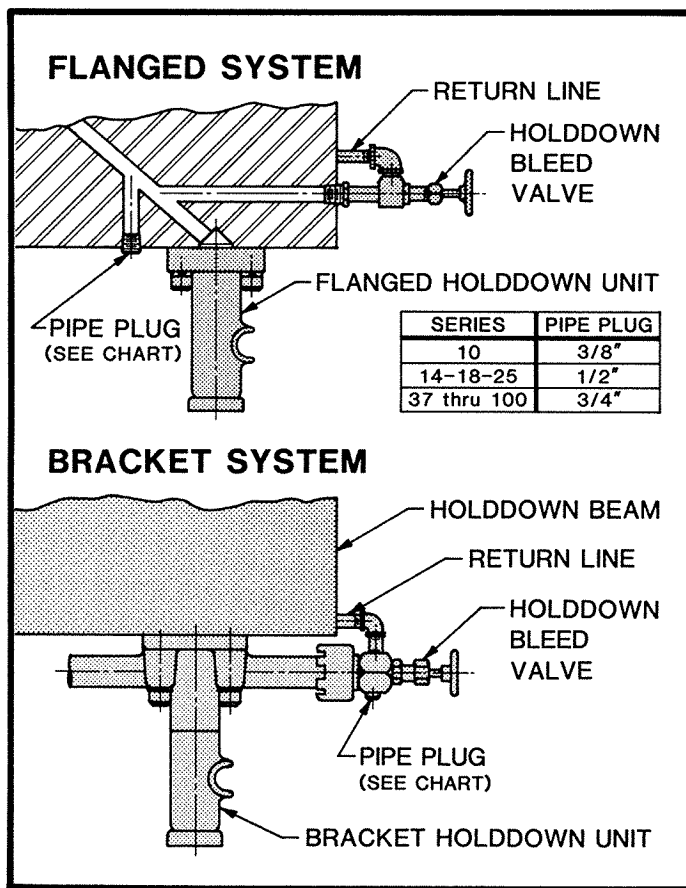

FIGURE 98
3. Refer to Figure 98 to determine the type of holddown units, bracket or flanged, on the shear. Remove the pipe plug from either the holddown bleed valve or bottom of the holddown beam, depending upon type of holddown unit. Use a pint container to collect oil that drains from the hole.
To check the hydraulic holddown pressure use a vertical reading, snubbed type pressure gage. We recommend a Schrader #630-9020 pressure gage or its equivalent. Due to the different size pipe plugs in the holddown beam or hold-down bleed valve (See Figure 98), reducer bushings will be required to adapt the pressure gage.